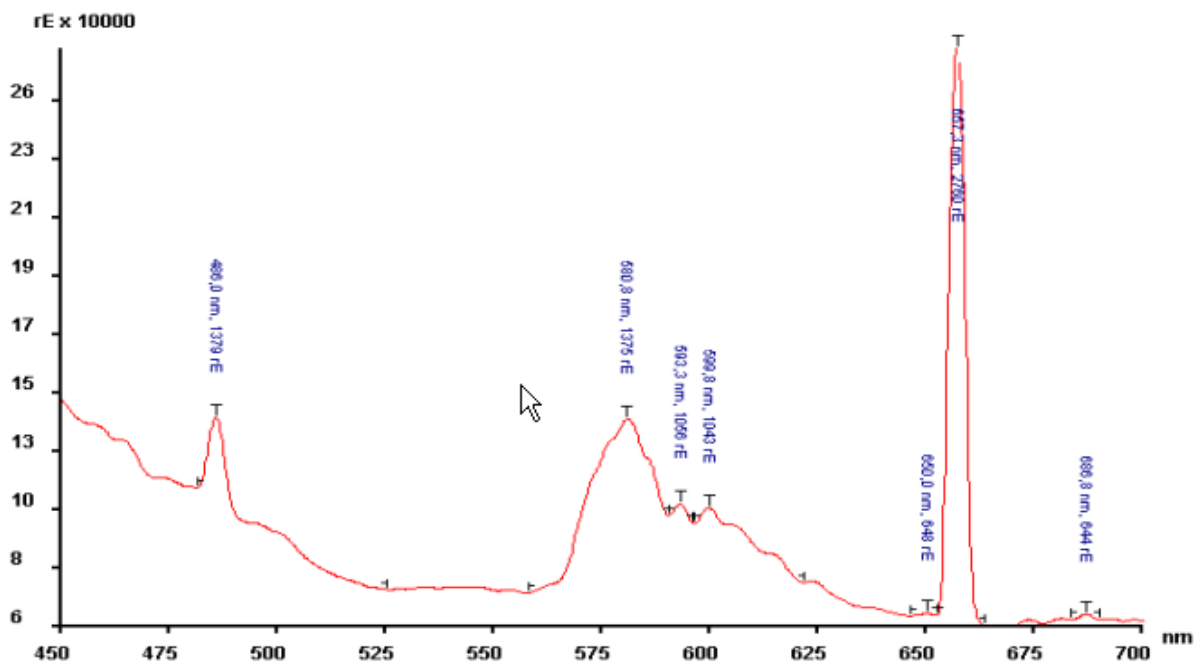

Fig. 119: Test of wavelength accuracy
- A) With the **NANOCOLOR® UV/VIS** a scan with the deuterium lamp is performed in the range from 450 nm to 700 nm and the Balmer lines of deuterium are analysed. Figure 119 show the relevant part of the spectrum.